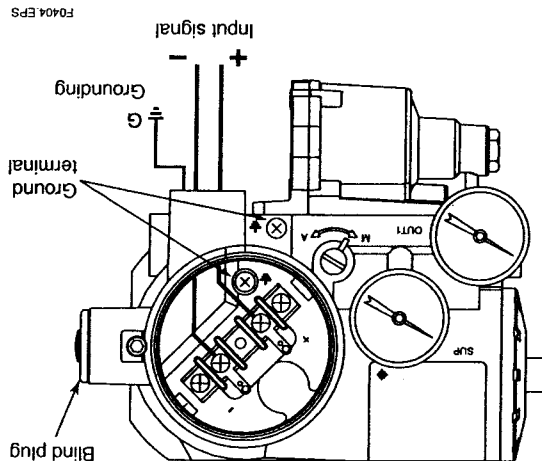

Figure 4.4 Wiring
- As shown in Figure 4.4, remove the terminal box cover and dust proofing plug when performing a wiring connection. Be sure to securely seal the unused wiring port with a blind plug.
Ground terminals are located on the inside and outside of the terminal box. Either of these terminals may be used. See Figure 4.4.